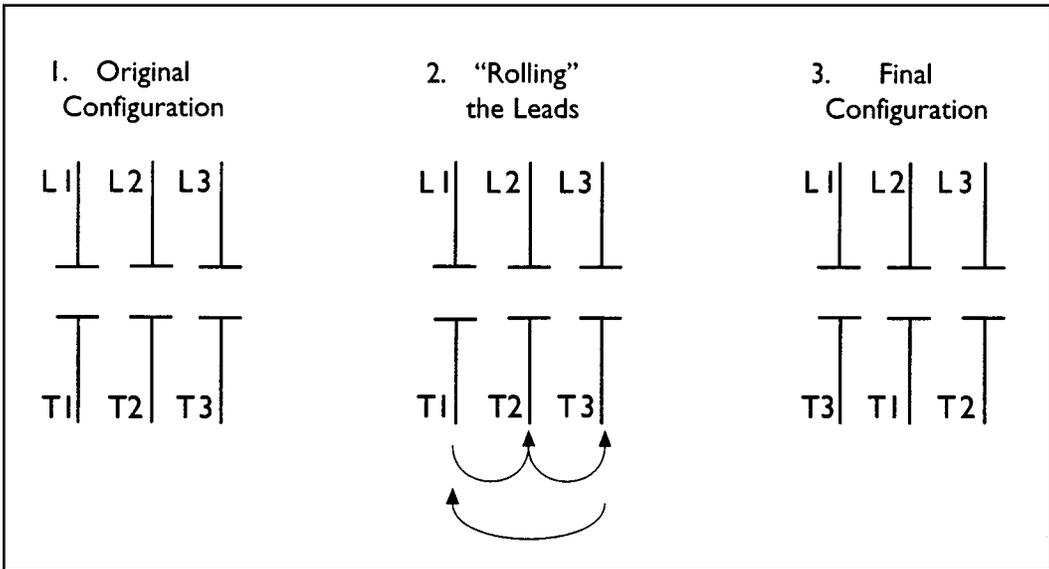

Figure 3.4
5. If the current imbalance is greater than 5%, “roll” the leads and retest (Figure 3.4, Rolling the Leads to Balance Current Rotation). If “rolling” the leads does not correct the problem, the source of imbalance must be located and corrected. For more information on current imbalance, refer to the motor operation manual.